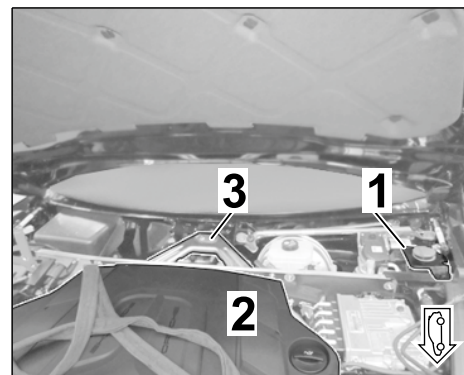

Figure 5
1.3 Expose plenum panel area (⇒ Figure 5)